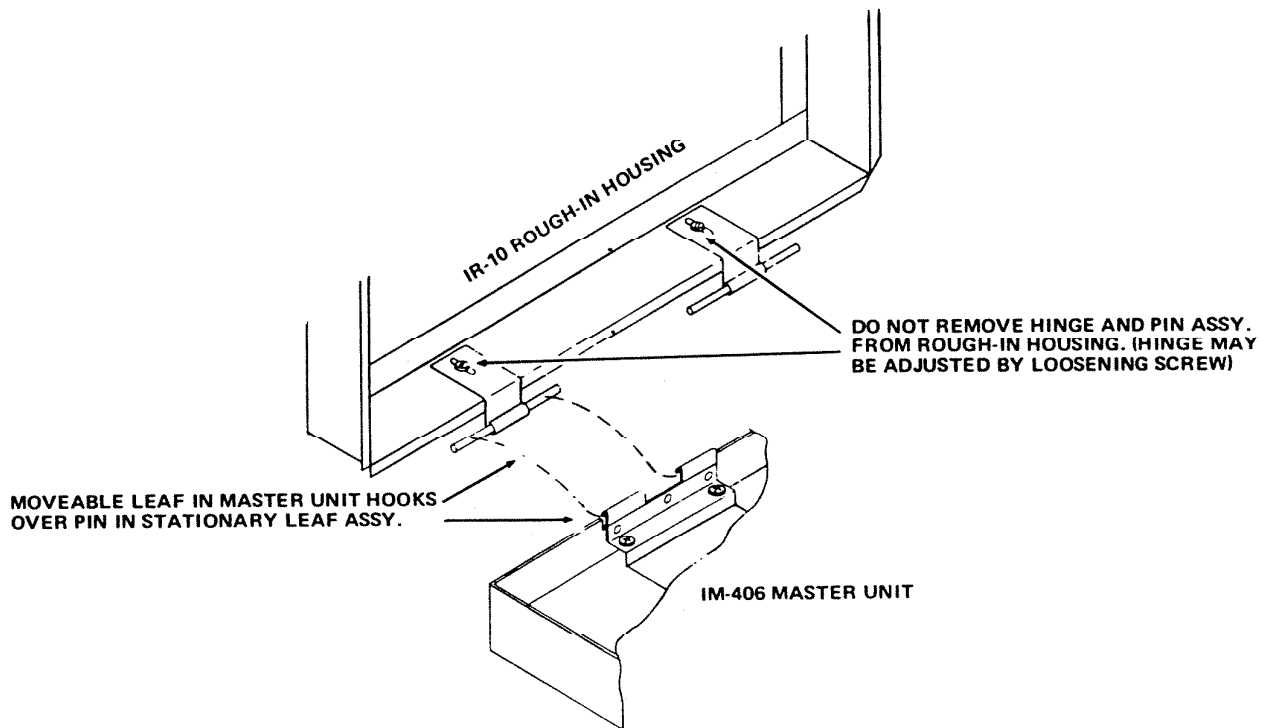

FIGURE 18: LATER PRODUCTION IM-406/IR-10 HINGE DETAIL
- (6.2) Later Production Units, Figure 18 (Omit step (6.1) above): Unhook support strap from rough-in housing and lift unit and moveable leaf up and away from the fixed leaf of each hinge fastened to the rough-in housing.
- (7) The Master Unit, less the Terminal Board (step (4) above) must be removed when replacing pilot lights or when repairing or replacing the Amplifier/Power Supply Module.